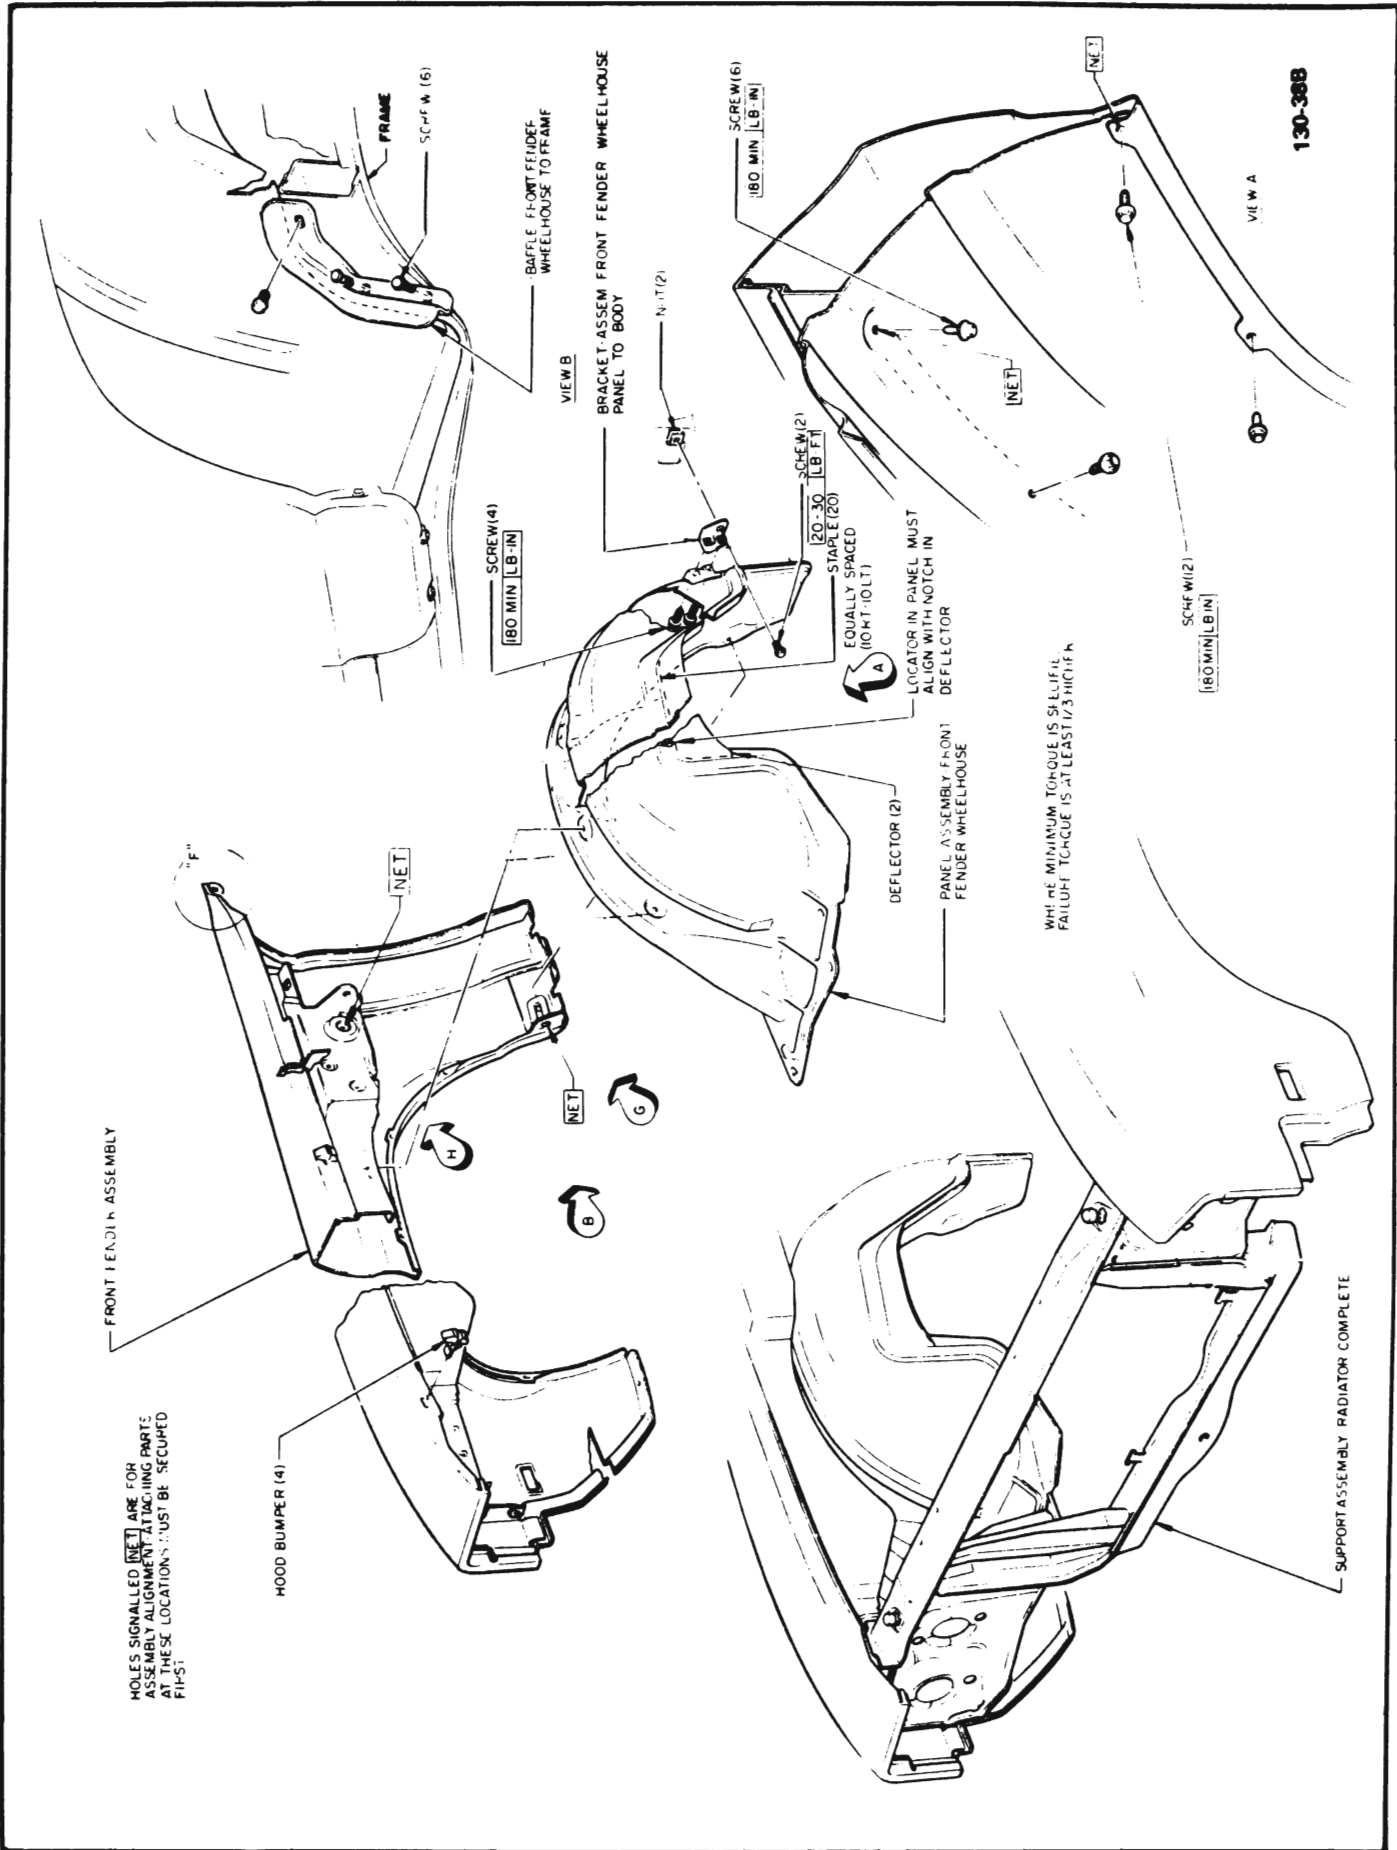

Figure 110-3 43-44000 Fender and Skirt
The chassis sheet metal assembly is attached to the frame and body at adjustment points. See Figures 110-3 and 110-5. The front of the assembly is supported by two mounts located at the frame side rails. Shims at these locations allow up and down movement of the front of the sheet
17. Skirt can now be removed from fender by removing skirt to fender attaching bolts. See Figure 110-3.